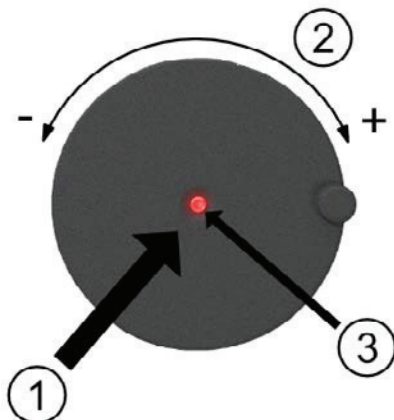

Fig. 6 Control elements of the control unit
3. Connect the power plug back to the power supply, the LED (see Fig. 6, Pos. 3) will light up for approximately 1 second.
1. Press on the control unit (Fig. 6 / Pos. 1) to switch on the heater.
2. To switch on the heater, press on the control unit (Fig. 6 / Pos. 1). The power of the infrared heater can be adjusted in a range from 40% to 100% (in 10% increments).